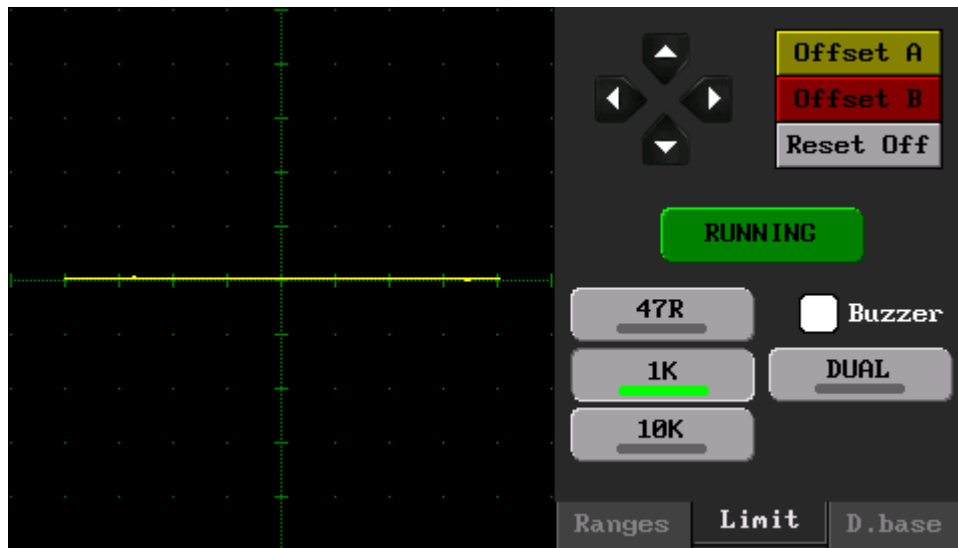

Figure 6. Test Mode overview (Limit menu)
**Limit Menu:** In this menu, offset settings and source resistance are set (Figure 6).